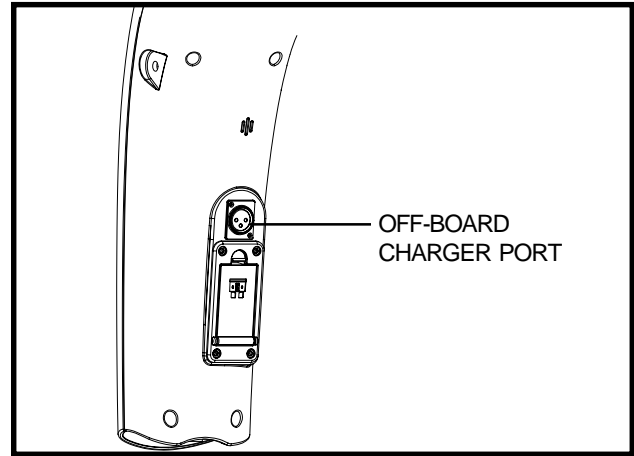

Figure 5. Off-board Charger Port (Tiller Mounted)
The off-board charger power lead plugs into this port during battery charging. The off-board charger port will be located on the tiller or on the right battery box depending on which scooter model you own. See figures 5 and 5A.
5. Plug the 3-pin charger power lead into the off-board charger port. **See figures 5 and 10A.**